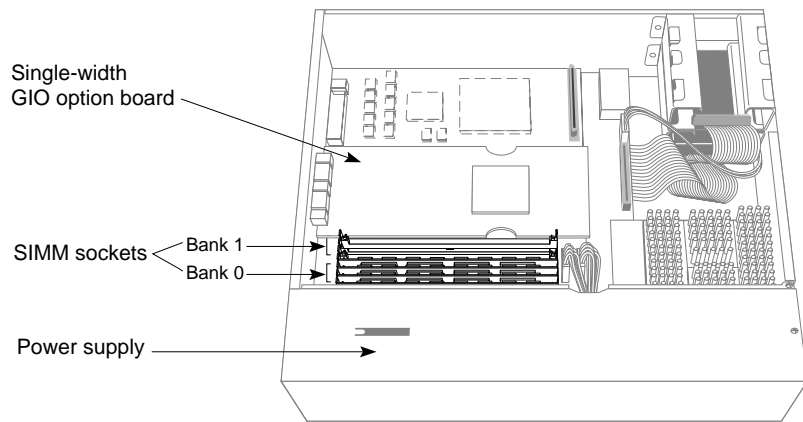

Figure 4-1 Locating the SIMM Sockets
5. Move the system or position yourself so that you are facing the power supply. The SIMM sockets are located as shown in Figure 4-1.